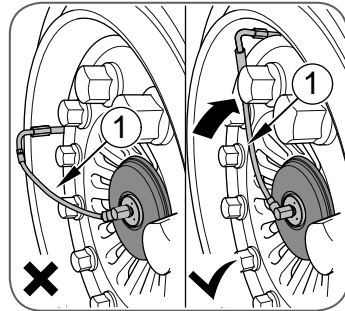

Fig. 6 - Assembling the connecting line
1. Secure the connecting line see ► *Fig. 6* to the tyre valve using a valve –extension if required, or modify the valve.
3. Screw the connecting line (item 1) to the rotor hand tight ► *page 63*.